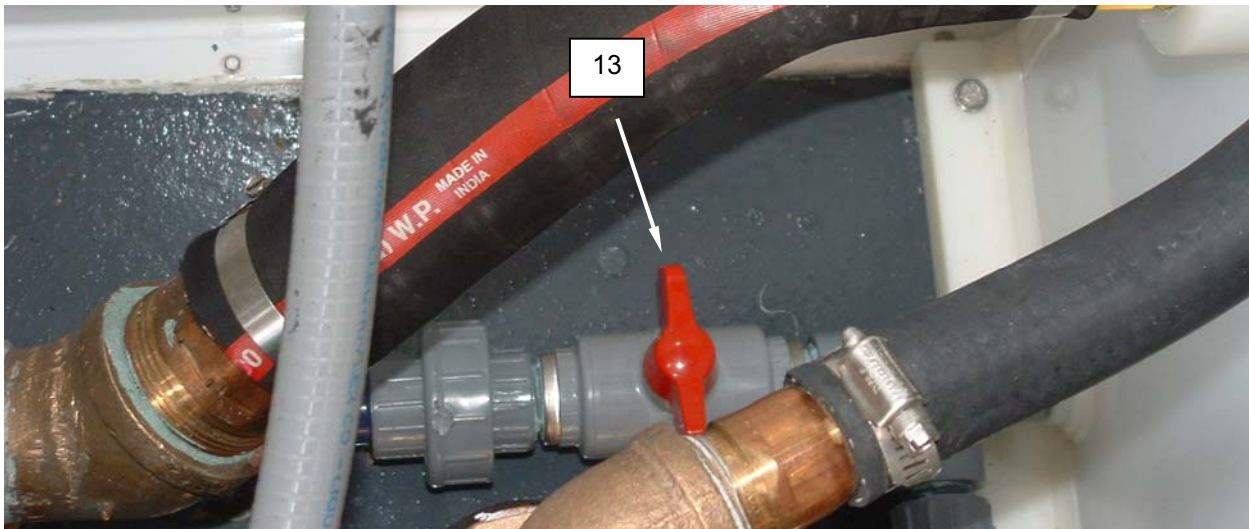

Figure 7. Waste Tank Drain Valve.
4. Close the waste tank drain valve V-36 (Figure 7, Item 13).